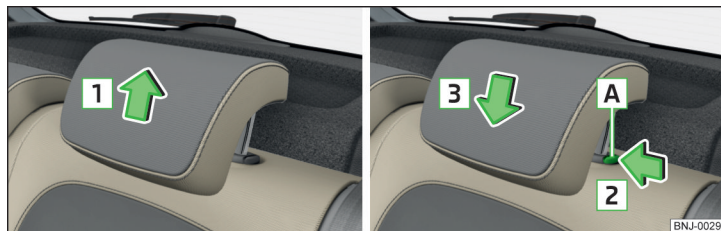

Fig. 61 Headrests: move up/move down
- Push the headrest in the direction of arrow **1** » Fig. 61.
- Press the locking button **A** in the direction of the arrow **2** and hold » Fig. 61.